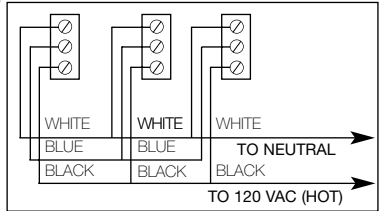

FIGURE 2
- Use #18 AWG minimum solid or stranded wire. When interconnecting, maximum wire length between any two units is 1,500 feet for #18 AWG or 4,000 feet for #14 AWG (20 OHMS loop resistance.) See Figure 2.